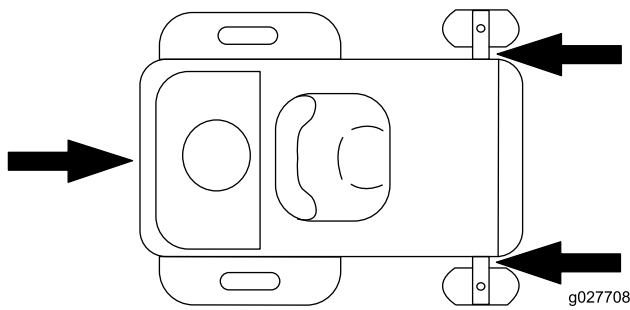

Figure 16
- Tie down the machine near the front caster wheels and the rear bumper (Figure 16).